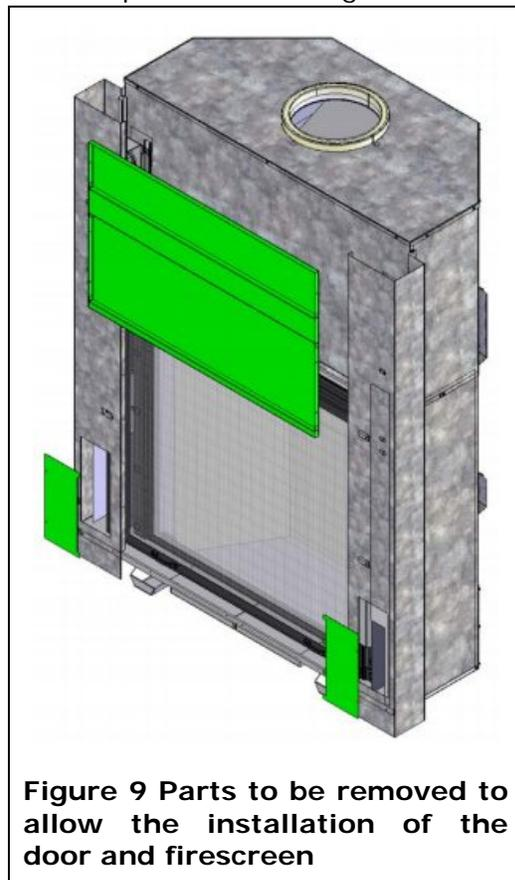
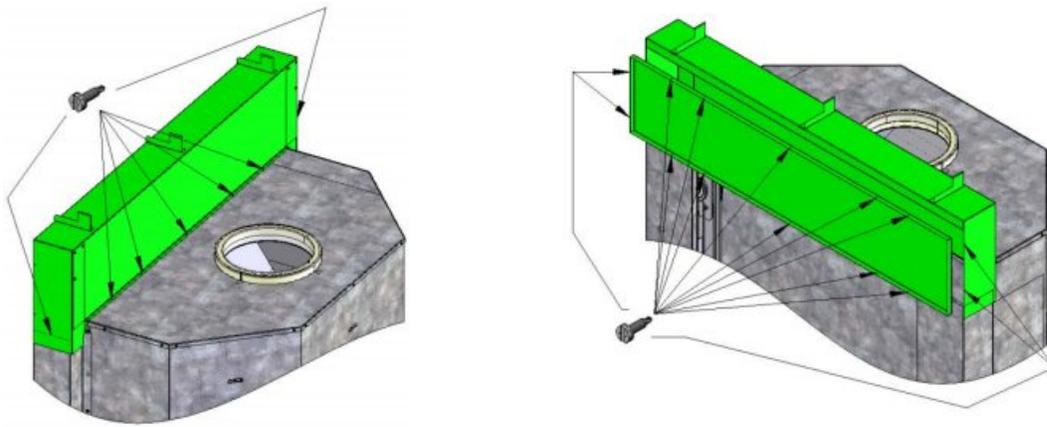

Figure 9 Parts to be removed to allow the installation of the door and firescreen
Figure 10 Installation of the top finishing cover and front top finishing cover
1. To be able to install the counterweights (H) some parts need to be removed and reinstalled later (see Figure 9). Take the time to notice how they are installed and keep all the screws. Start by removing the front central finishing cover (just above the firebox opening). Continue by removing both left and right access doors for the counterweights.
3. Find the two bigger counterweights (H), the two counterweight blocking rods and the two black round caps from the manual bag (N).
5. Attach the cable to the counterweight (H) using the threaded connector and screw the threaded connector closed.
6. Locate one of the counterweight blocking rods (N), you will need it shortly.
8. Push the counterweight blocking rod (N) through the hole in the counterweight channel located about 62" from the floor. Make sure to pass the blocking rod all the way through the channel and out the back. Once the rod is in place, you can let go of the counterweight cable.
1. Reinstall both left and right counterweight access doors and the front central finishing cover (just above the firebox opening) (see Figure 9).
2. Find the top finishing cover (C) and the front top finishing cover (D) along with the bag of small self-tapping screws (N).
3. Install the top finishing cover as shown in Figure 10. Put it on top of the fireplace. It should rest over the two side finishing covers and flush on the front. The back edge should be on the top of the fireplace casing as shown in Figure 10. Using two small self-tapping screws, attach both sides of the top finishing cover to the sides. Using five of the small self-tapping screws, attach the back edge of the top finishing cover to the top of the fireplace casing.
4. Again, using small self-tapping screws, install the front top finishing cover (D) as shown in Figure 10. Make sure to install the four side screws from the outside towards the inside so that the screws tips do not protrude from the side of the fireplace.